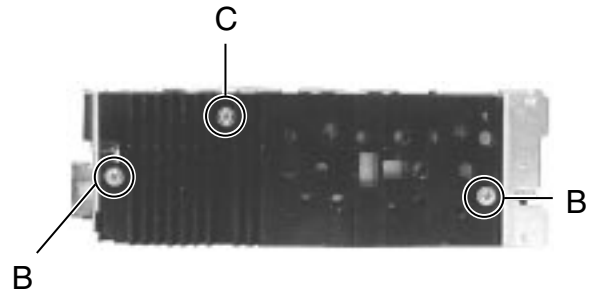
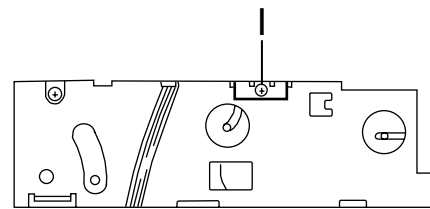

Fig 6
Fig.7
(See Fig. 6, Fig. 7)**
**■ Removing the rear bracket (See Fig. 7)**